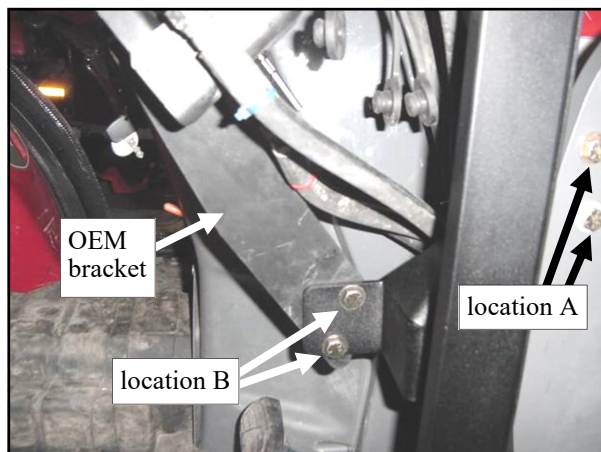

Fig. 2.1 (view from right side of tractor)
2.1 Per fig. 2.1, remove the loader control valve from the tractor (the two bolts at location A). Install the supplied loader control mount, reusing the hardware at location A. Attach the loader control valve to the supplied mount (location B) with two 3/8" x 1-1/4" long hex head bolts, four steel washers, and two locknuts as shown. Tighten all four bolts at this time.